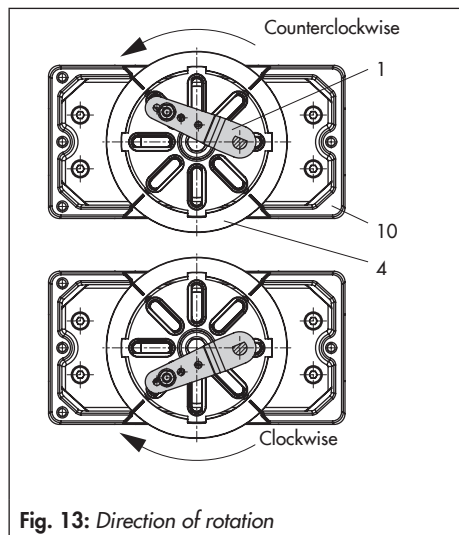

Fig. 13: Direction of rotation
1. Mount the housing (10) onto the rotary actuator. In case of VDI/VDE attachment,
- place spacers (11) underneath, if necessary.
- For **SAMSON Type 3278 and VETEC S160 Rotary Actuators**, screw the adapter (5) onto the free end of the shaft or place adapter (5.1) onto the shaft of the **VETEC R Actuator**. Place adapter (3) on to **Type 3278, VETEC S160 and VETEC R Actuators**. For **VDI/VDE version**, this step depends on the actuator size.
- Fasten coupling (4) on the slotted actuator shaft or adapter (3) using screw (4.1) and disk spring (4.2).
- Unscrew the standard follower pin (2) from the positioner's M lever (1). Attach the follower pin (Ø 5 mm) included in the mounting kit to pin position 90°.
- Mount connecting plate (6) for required G 1/4 connecting thread or pressure gauge bracket (7) with pressure gauges on the positioner, making sure the two seals (6.1) are seated properly. Double-acting springless rotary actuators require the use of a reversing amplifier on the connection side of the positioner housing (refer to section 4.6).
- Place positioner on housing (10) and screw it tight. Taking the actuator's direction of rotation into account, adjust lever (1) so that it engages in the correct slot with its follower pin (Fig. 13).